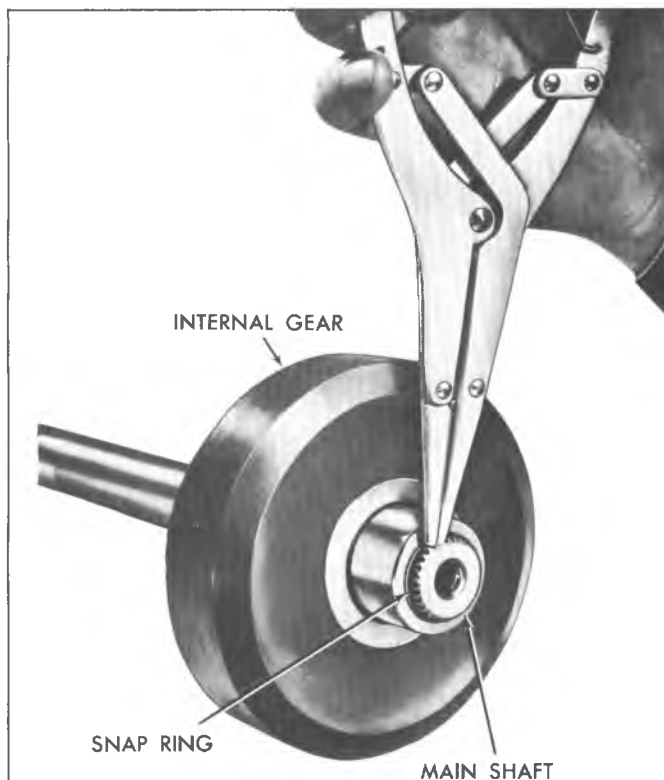

Fig. 45T—Removing Rear Internal Gear to Main Shaft Snap Ring
14. Remove rear internal gear to sun gear thrust bearing and two (2) races.
15. If necessary, remove rear internal gear to mainshaft snap ring, to remove mainshaft (fig. 45T).